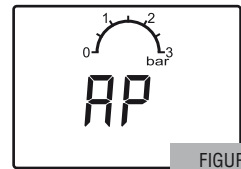

FIGURE 2
- 5.1 Switch the mains power ON and the boiler LCD display will show "AP". This puts the boiler into the Air Purge Mode. See Figure 2.